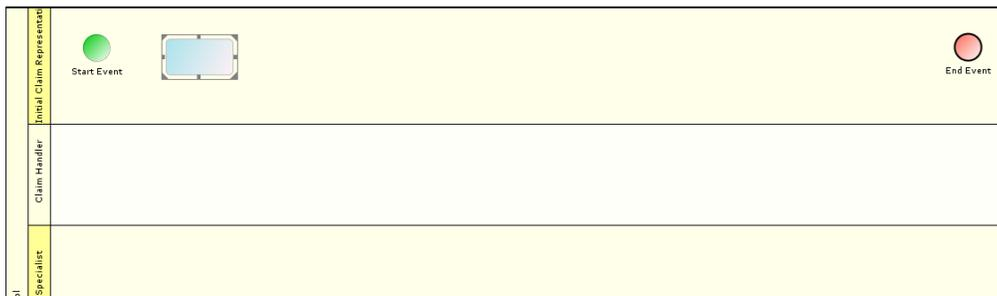

Figure 8: Dragging BPMN Activity into Swim Lane
1. Click **Activity** element () in the Palette and drag it to the first swim lane (*Claim Handler*), on the Graph Canvas. The dragged activity element is displayed in the selected swim lane on the Graph Canvas (see Figure 8).